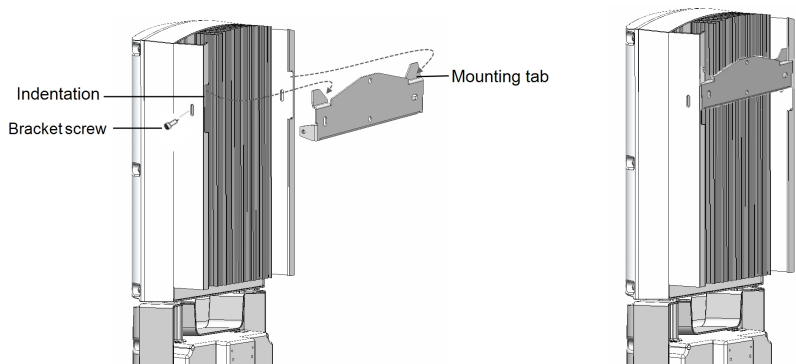

Figure 10: Hanging the inverter on the bracket
- Ensure that the flat edge of the bracket is at the bottom, as in *Figure 10*.
5. Hang the inverter on the bracket (see *Figure 10*): Lift the inverter from the sides, or hold it at the top and bottom of the inverter to lift the unit into place. Do not lift holding the StorEdge Connection Unit as it may be damaged.
9. Insert the two supplied screws through the outer heat sink fin on both sides of the inverter and into the bracket (see *Figure 10*). Tighten the screws with a torque of $4.0 \text{ N}\cdot\text{m}$ / $2.9 \text{ lb}\cdot\text{ft}$.